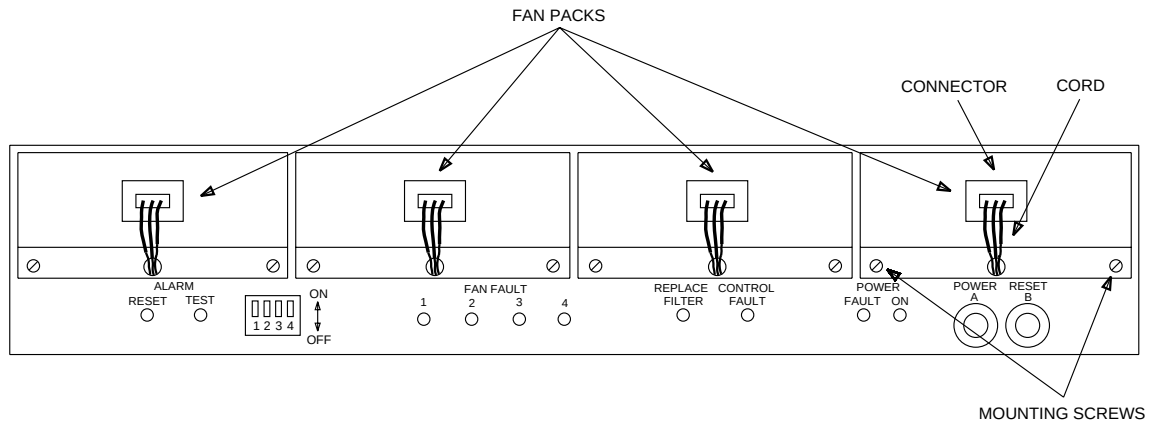

Figure 1. DDM-2000 Fan Shelf — Front Cover Removed
2. Disconnect the fan pack cable and unscrew the two mounting screws holding the fan pack in place. See Figure 1.